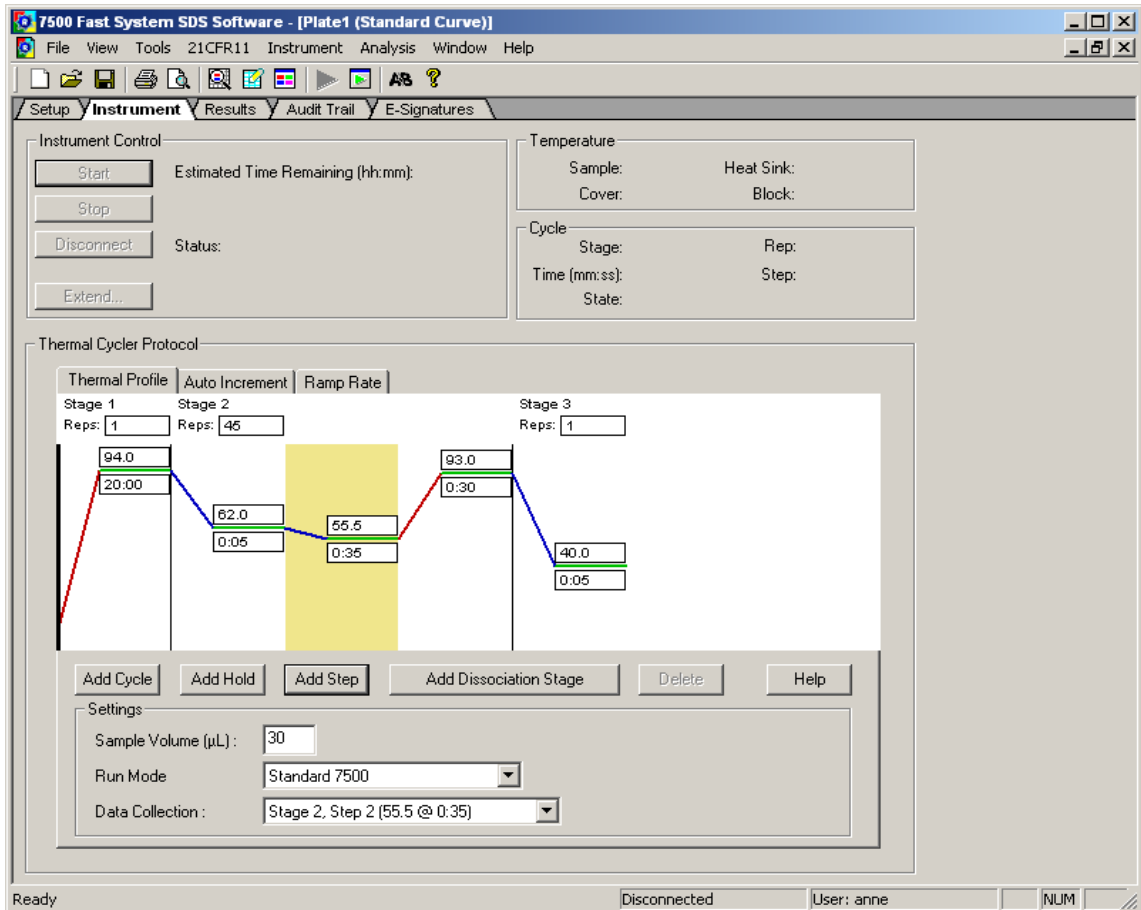

Figure 1: Screenshot after setting cycler program and detection mode.
- Confirm the Thermal Cycler Protocol settings according to Table 6 (see Figure 1).